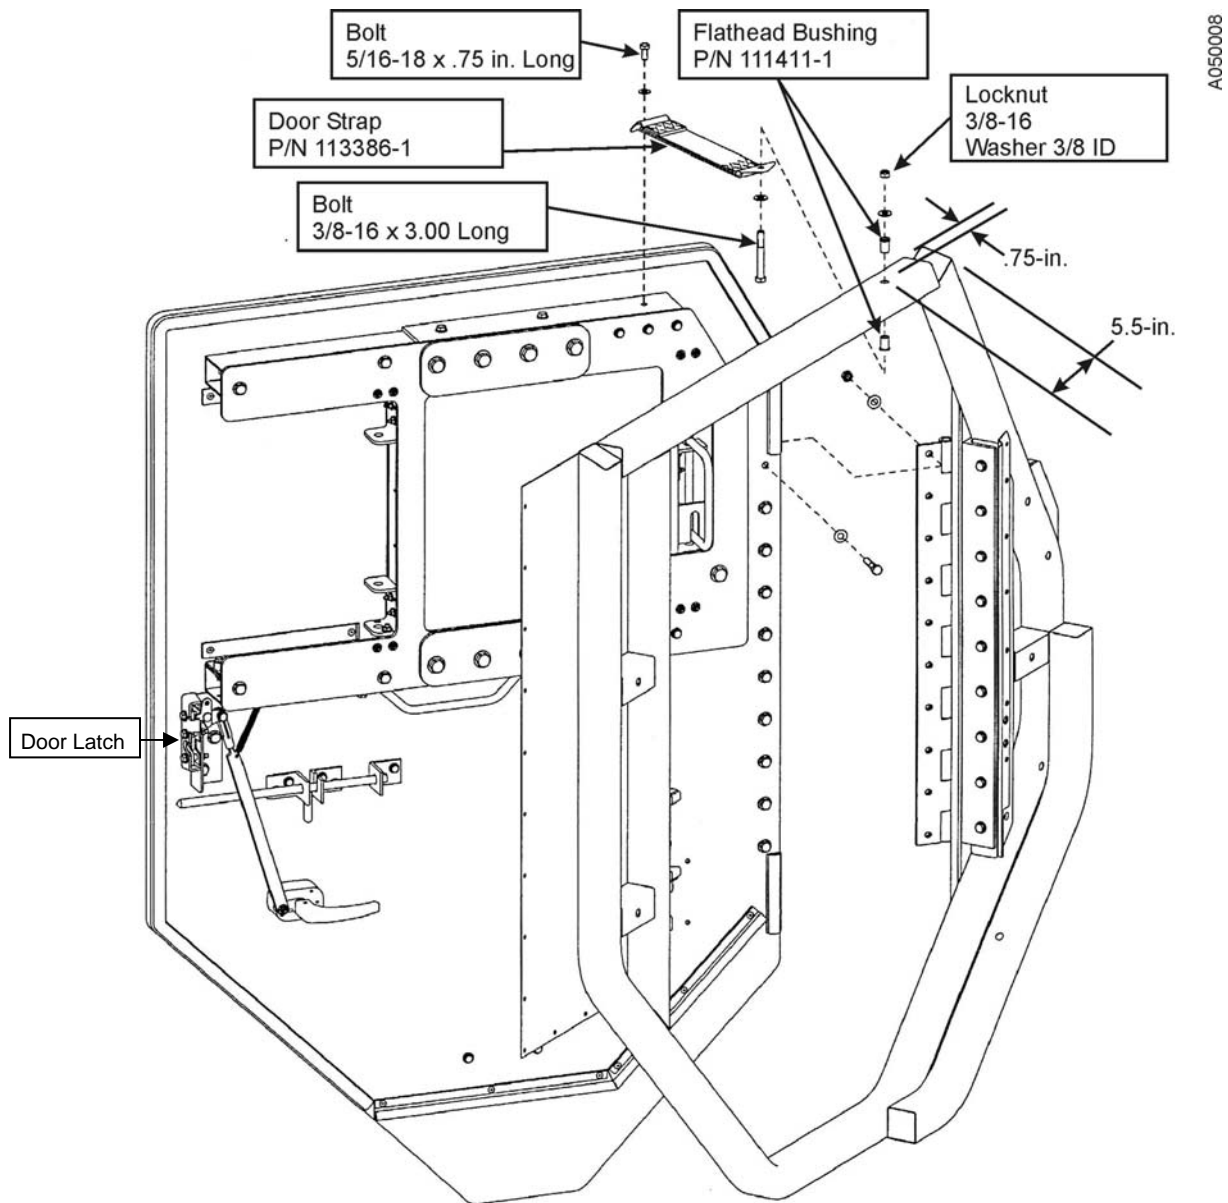

Figure 29. Armored Door and Door Strap.
- l) Locate the Strap Assembly attachment point on the top of the door frame as shown in Figure 29.
- p) Install the Strap Assembly to the door pillar using one bolt (3/8 – 16 x 3.000 LG), two washers (3/8 ID), and two flange bushings (P/N 1114111-1), one on each side of the tube, and one locknut (3/8 – 16) torqued to 10 ft-lb (see Figure 29).
- x) Using the lifting strap and material handling equipment (hoist, forklift, etc.), position the Armored Door Assembly so that the door can be attached to the hinge using ten (10) bolts, as shown in Figure 29.
- z) Install the Door Strap Assembly (P/N 113386-1) using the hardware as shown in Figure 29.
bb) Re-position the Door Latch Assembly (see Figure 29) if required, by loosening its attachment hardware so that the door smoothly engages the Door Striker Pin and then tighten the attachment hardware.